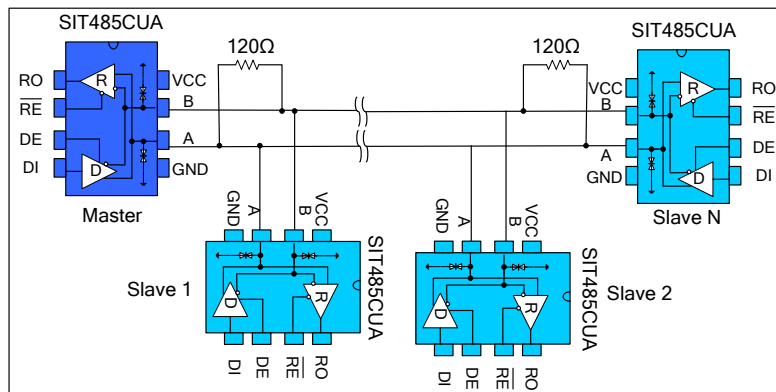

Fig11 Backbone cable type RS485 communications network
5.1 **Backbone cable type:** SIT485CUA transceiver is designed for multi-point bi-directional data communication bus transmission lines. Figure 11 shows a typical network application circuit. These devices can also be used as a cable longer than 4,000 feet of line repeater, to reduce the reflection, the transmission line should be in its ends terminated in its characteristic impedance, and stub lengths off the main line should be as short as possible.